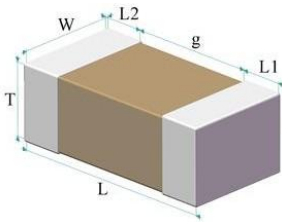

Fig.1 Structure & Dimension
| 2   | Size Code                                 | See Fig.1 and ② Size Code                                                                                                                                                                                          | Measuring by gages which precision is not less than 0.01 mm.                                                                                                                                                                                                                                                                                                                                                                                                            |